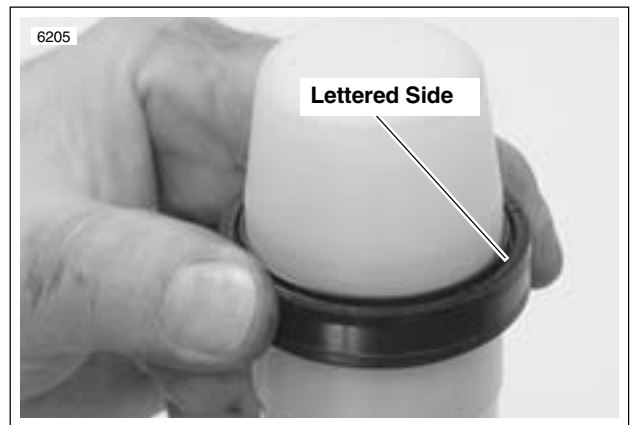

Figure 2-53. Installing Fork Seal
- a. Apply fork oil to a **new** oil seal (13).
- b. Spread fork oil over slider tube bushing (17) and upper bushing (15).
2. Install slider tube bushing into recess on slider tube (16).
3. Drop upper bushing (15) and oil seal spacer (14) around slider tube from end opposite slider tube bushing.
- a. See Figure 2-53. Place **plastic cone** of FORK SEAL/BOOT INSTALLER (Part No. B-42571) over end of slider tube.